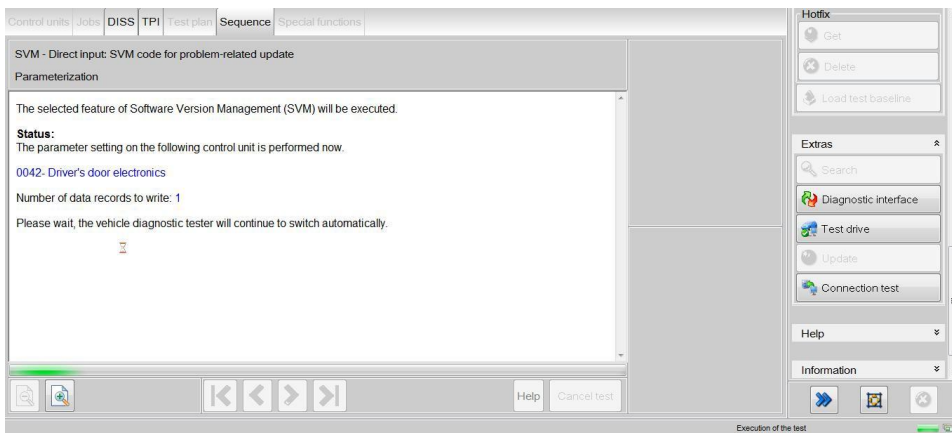

Figure 3
3) The Required control units will be automatically updated in the order shown in Figures 3 through to 6